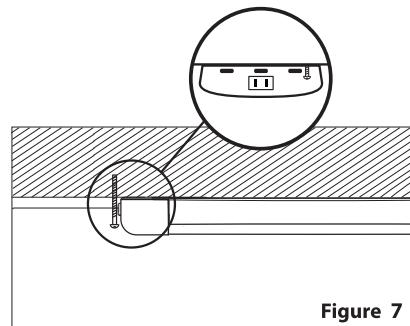

Figure 7
3. Mount a third screw next to the side of the outlet (See Figure 7). If anchor is required, mark the hole as close as possible to the fixture, remove the lamp, drill the hole on the marked position, install anchor into the drilled hole, re-install the fixture then install the screw into the wall anchor. This will secure the lamp into place.